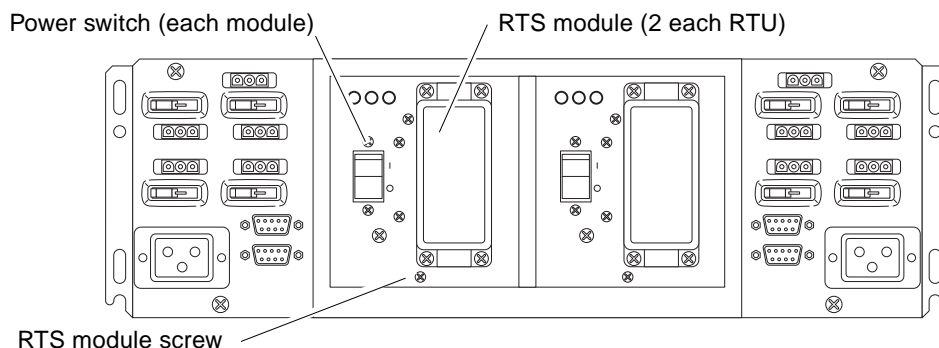

FIGURE 7-2 RTS Module in the RTU Assembly
2. Power off the RTS module that is to be replaced (FIGURE 7-2).
5. Remove the four screws holding the RTU to the cabinet (FIGURE 7-2).